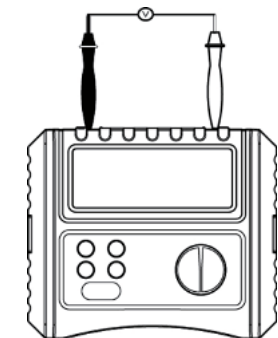

Figure 5
X. Measuring Voltage/Frequency (See Figure 5)
- Connect as shown in Figure 5: